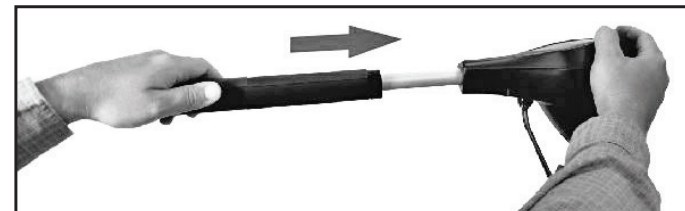

Figure 1
1. Insert handle into the opening of the trolling motor head as shown in Figure 1. Press firmly until there is no gap between the trolling motor head and the black portion of the handle.